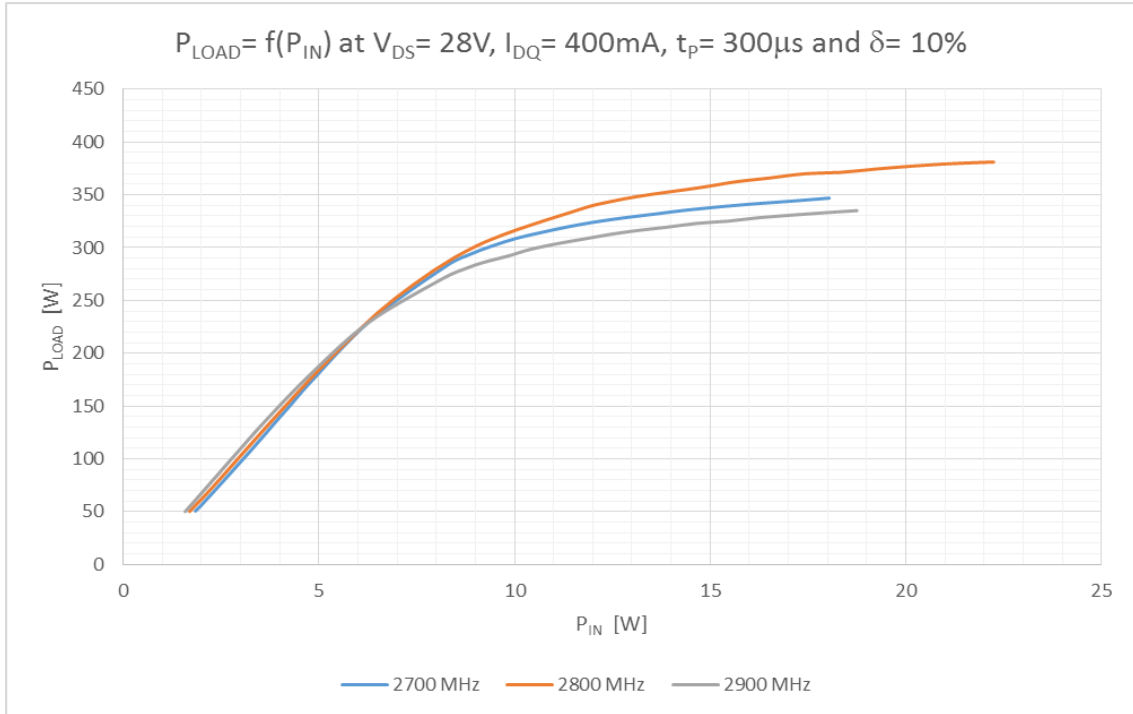

Figure 1 P_LOAD vs P_IN
- Figure 1 P_{LOAD} VS P_{IN} 4